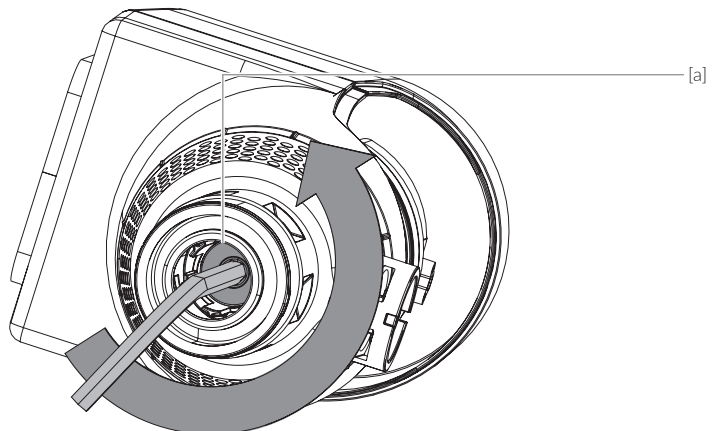

Fig. 9.5
- / Fig. 9.5: Loosen the reducing sleeve [d] from the underside with an allen key in the direction of arrow
The **CLEAR** PRO RD domestic water unit and also the **CLEAR** PRO R backwash filter are designed in such a way that the filter element can be cleaned or replaced after disassembly (according to chapter 9.3 Maintenance of pressure reducer, Fig. 9.5 to 9.9).